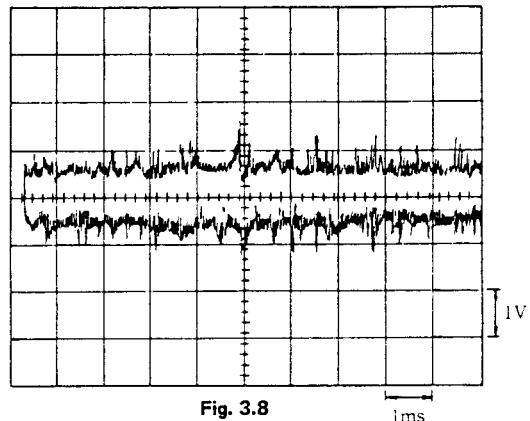

Fig. 3.8
- (1) Load the Philips Test Sample 5 test disc (non-scratched), observe the noise voltage on the voltmeter, and adjust VR103 so that the noise voltage on TP103 (Tracking) and TP102 (GND) is 0.26V RMS ± 0.01 V (Fig. 3.8).